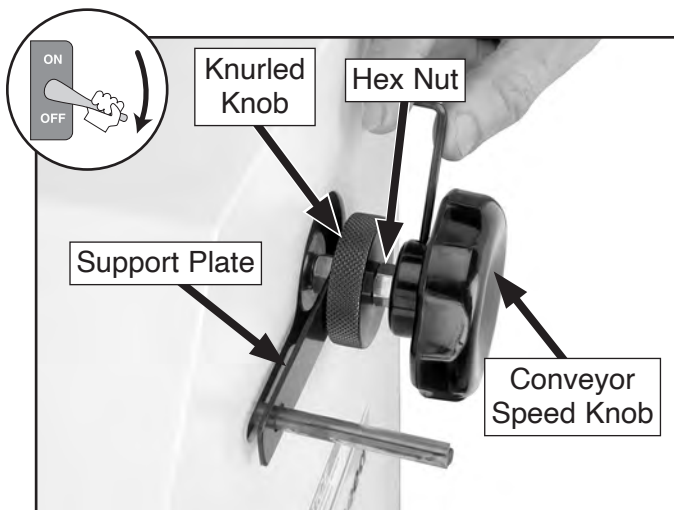

Figure 47. Removing variable speed knob.
2. Remove conveyor speed knob, hex nut, knurled knob, and support plate, shown in **Figure 47**.
9. Install conveyor speed knob, hex nut, knurled knob, and support plate (see **Figure 47**).